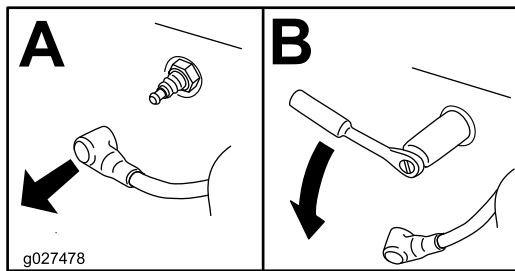

Figure 35
3. Disconnect the wire from the spark plug (Figure 35).